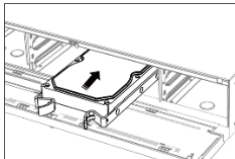

Figure 2-9 Insert HDD
Step 3 Insert the HDD until it is firmly fixed. Refer to Figure 2-9